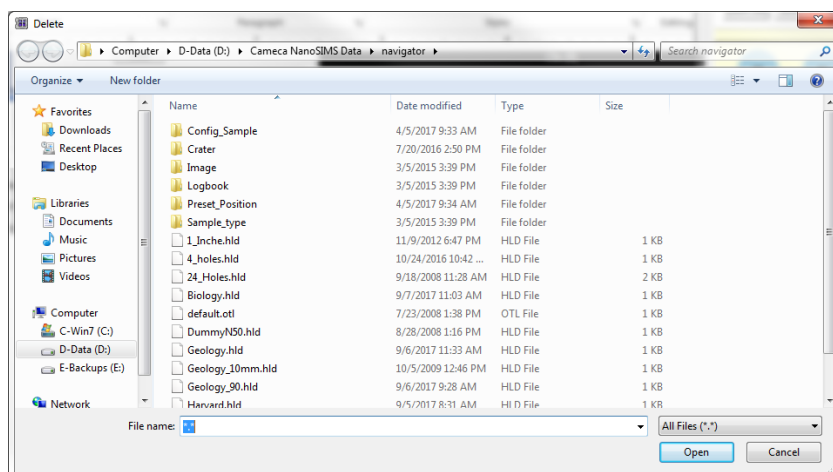

Figure 177: Navigator file manager
- **Remove:** allows to manage the *Navigator* files (holder, preset positions, etc... see section 5.3.1.4 for details). Files can be deleted, copied, moved. Figure 177 shows the dialog box.